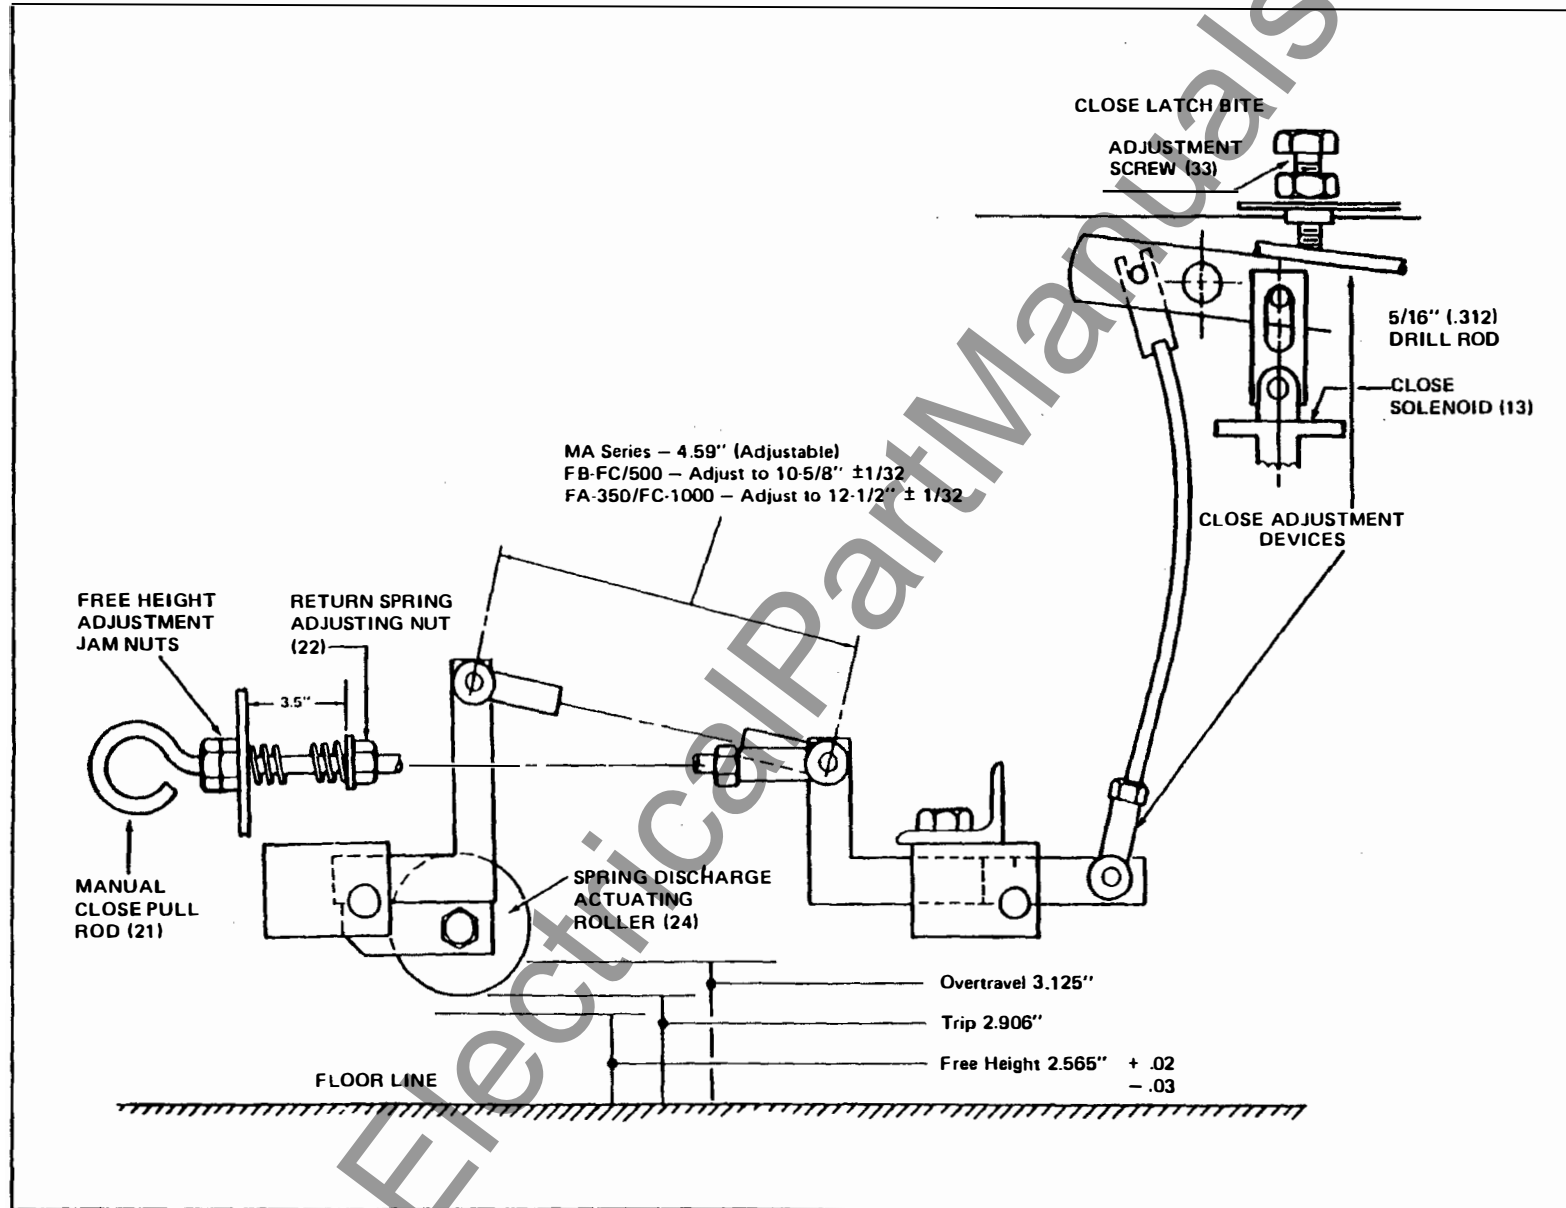

Figure 19. Closing Spring Discharge Mechanism
**Free Height Adjustment (Figure 19)** — is achieved by blocking the actuating roller to the indicated height and adjusting a pair of jam nuts, located on the manual closing pull rod, to maintain the roller in this position with blocking removed. Return spring adjusting nut should be set to produce  $0.5 \pm .06$  inch ( $12.7 \pm 1.6$  mm) deflection in return spring.
**Trip Adjustment (Figure 19)** is made by varying the penetration of the "curved actuating rod" in its attachment clevis. A 5/16" (7.94 mm) drill is placed between the upper latch surface and the latch adjusting bolt. A 2.906" (73.81 mm) block is to be inserted between the actuating roller and floor. The "curved" rods upper yoke is nested against a forward roll pin in the closing latch and the lower clevis is adjusted to insure the closing latch will not move more
**Overtravel (Figure 19)** — no adjustment required. Check with 3.125" (79.4 mm) blocking below actuating roller. Closing solenoid link should provide freedom of latch movement without jamming.